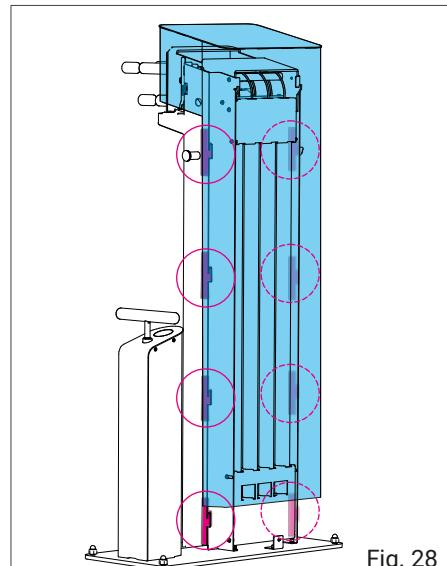

Fig. 28
- 2 You must then remove the colored L-shaped back cover (12). To do this, loosen the M4 flat round head Torx safety screw (20) with the appropriate safety bit (4) and push the cover approx. 50 mm upwards. You can then remove the cover (Fig. 28).